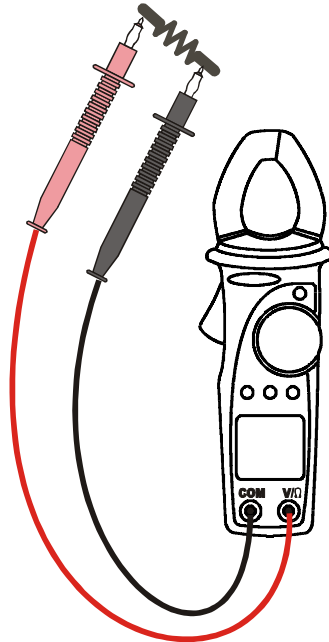

Fig. 8: Use of clamp for resistance measures.
2. Insert the test leads into the jacks. The red lead into V/ Ω jack, and black lead into COM jack, as shown in Fig. 8.
4. Press R-H key you can select manually the measurement ranges in cyclic order. Press R-H key 2 seconds to return to the AUTOMATIC range selection.